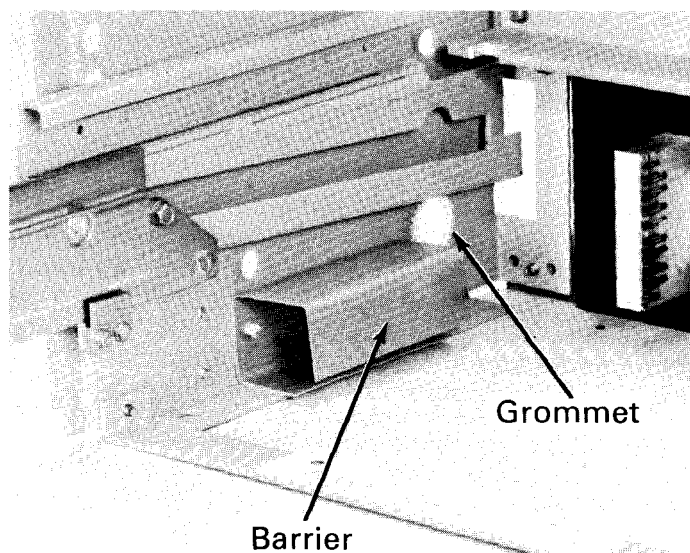

Figure 5. Bypass Switch barrier on the inside of the substructure.
1. Locate the barrier, shown in Figure 5, installed in the substructure at the factory.
4. Snap the supplied grommets into the 1 1/4-inch diameter holes in the rear of the substructure, shown in Figure 5, to protect the wires.